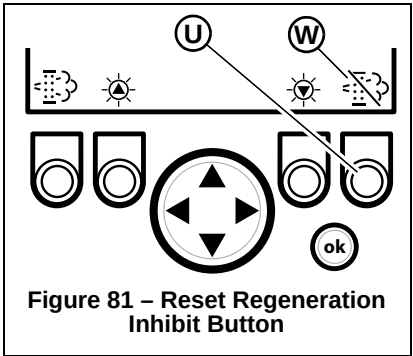

Figure 81 – Reset Regeneration Inhibit Button
To temporarily inhibit reset regeneration, hold down button (U, Figure 81) until the strikethrough in the Reset Regeneration symbol (W) turns to red.
Note: The stationary regeneration request screen can be temporarily dismissed by pressing the reset regeneration inhibit button (U, Figure 81) for 3 seconds. Until the previous screen displays. The stationary regeneration request screen will return 1 minute after being dismissed, for as long as the request remains active.